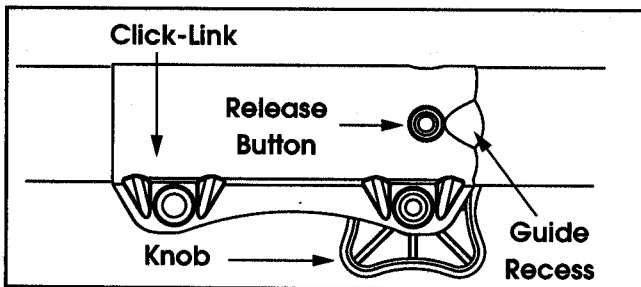

Fig. 1
1. Loosen the knob **counterclockwise** (Fig. 1).
2. Push the release button **in** (Fig. 1).